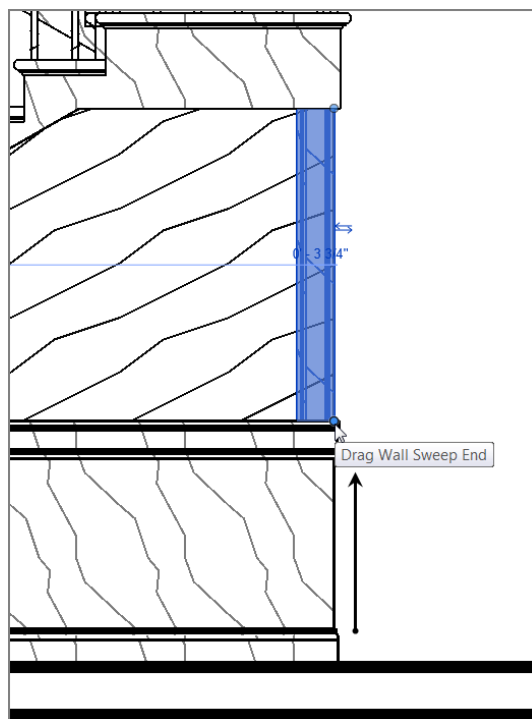

FIGURE 16.19: Dragging the sweep up to the chair rail
13. Select the vertical trim. Notice the grips on the top and the bottom. Pick the bottom grip, and drag it up to meet the top chair rail, as shown in Figure 16.19.